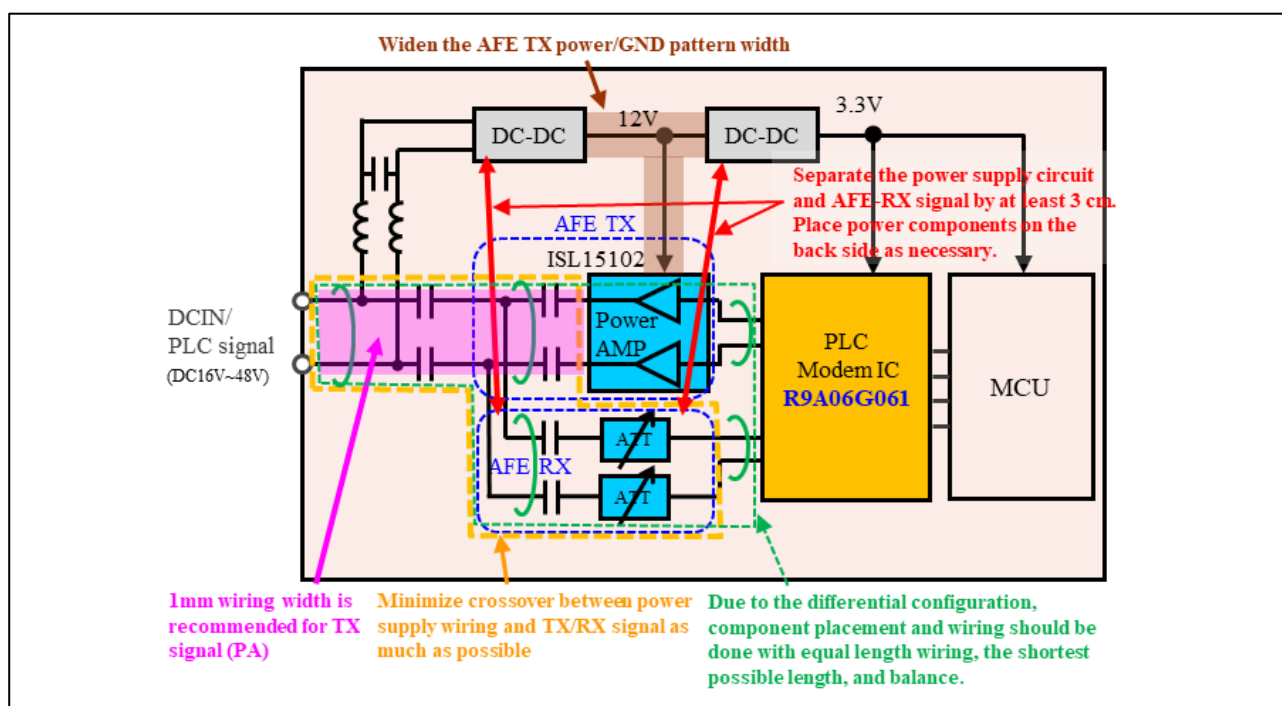

Figure 3-10 Cautions on PCB layout of PA drive AFE circuit
- Figure 3-10 shows cautions for PCB layout of the PA drive AFE circuit.